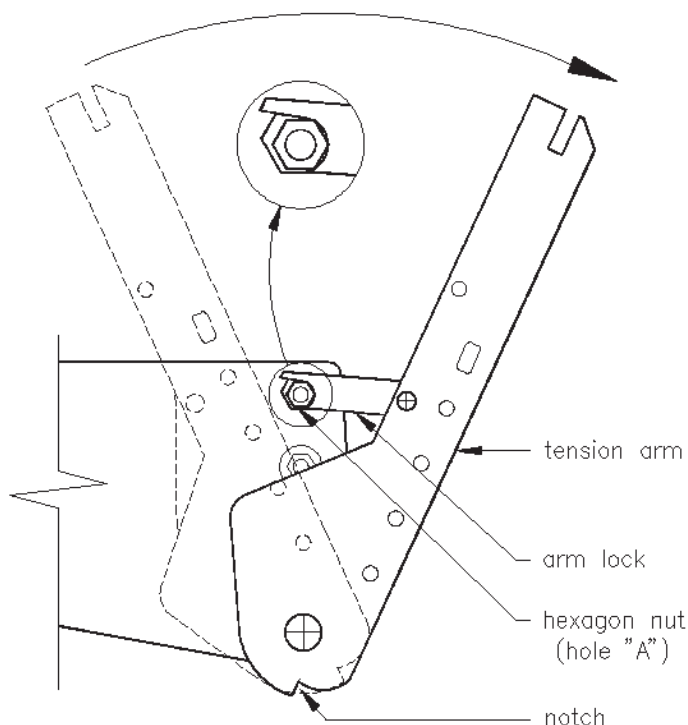

Figure 10. Setting the Tension Arm. Enlarged detail shows the Arm set securely against the hexagon nut.
- Brace one foot against the front edge of the SIDE PANEL and, using the 13" length of PVC tubing provided, lever the Lift Mechanism Tension Arm out and down until you can secure the Arm Lock to the hexagon nut you installed at Hole "A". See **Figure 10**. Be sure that the Arm Lock is secured against the hexagon nut before releasing the tension on the pipe lever. Repeat the operation on the other side.